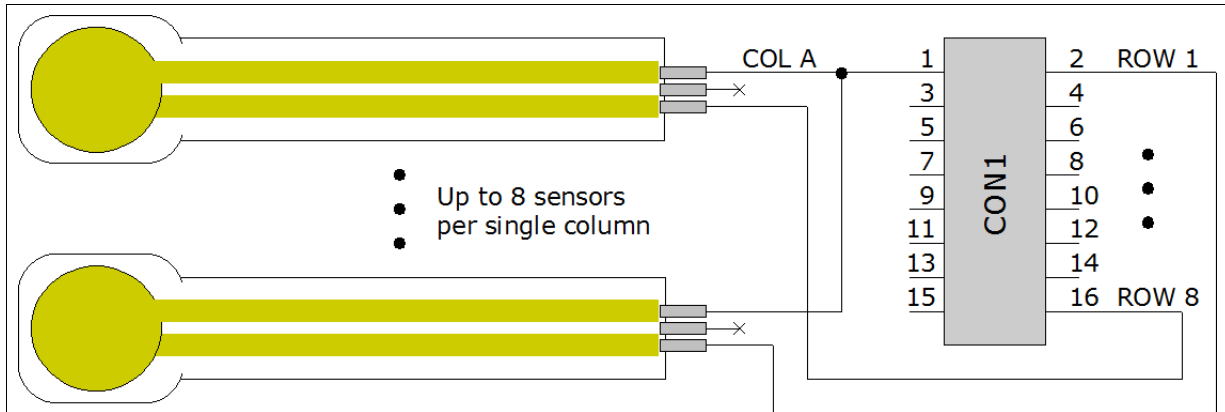
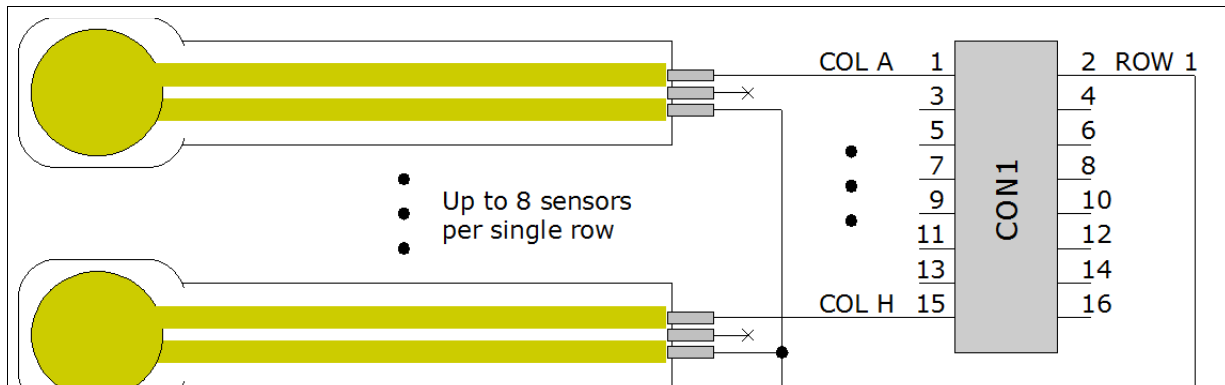

Figure 2: Up to 8 force sensors can be connected to a single column.
Figure 3: Up to 8 force sensors can be connected to a single row
Another solution to connect up to 8 sensors to Cebo-MSA64(W) is shown in Figure 2. While still each sensor is attached to a single row exclusively, all sensors are connected at the other terminal and then wired to Column A. With increasing distance between sensors and Cebo-MSA64(W), this scheme might prove more feasible, because the total number of wires needed to connect to CON1 is reduced. In the grid chart of Cebo MSA lite DAQ these sensors will appear at the first column from top to bottom.
Read-out of the sensor array is done in a row-by-row manner. Because switching from one row to another row takes some additional time for the analog signal to settle prior to reading the sensing inputs, maximum frame-rate is reduced. The highest possible frame-rate for an 8 sensor setup can be achieved, when sensors are connected at the row terminal side rather than the column side. Figure 3 shows an example. In the grid chart of Cebo MSA lite DAQ these sensors will appear at the first row from left to right. Combining the schemes shown in Figure 2 and 3 allows the connection of up to 64